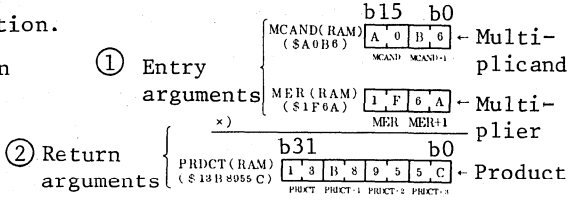

Fig. 1 Example of MUL execution
(b) Fig. 1 shows example of MUL execution.
If entry arguments are as shown in part ① of Fig. 1, Product is contained in PRDCT (RAM) as shown in part ② of Fig. 1.